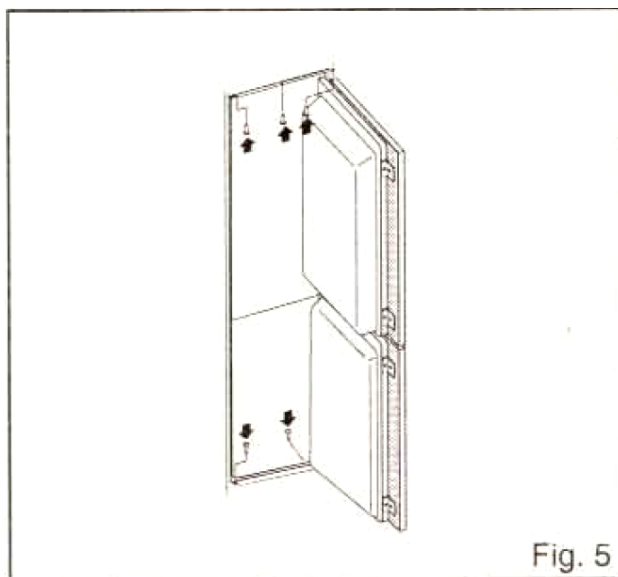

Fig. 5
Open the doors and find the holes through which you can fix the appliance to the unit. Attach the appliance to the inside of the unit as shown in Figure 5, below left.
- (See Figure 5, above left). **1)** Taking a drill bit with a diameter of 3mm, make 5 holes as shown in figure 5.